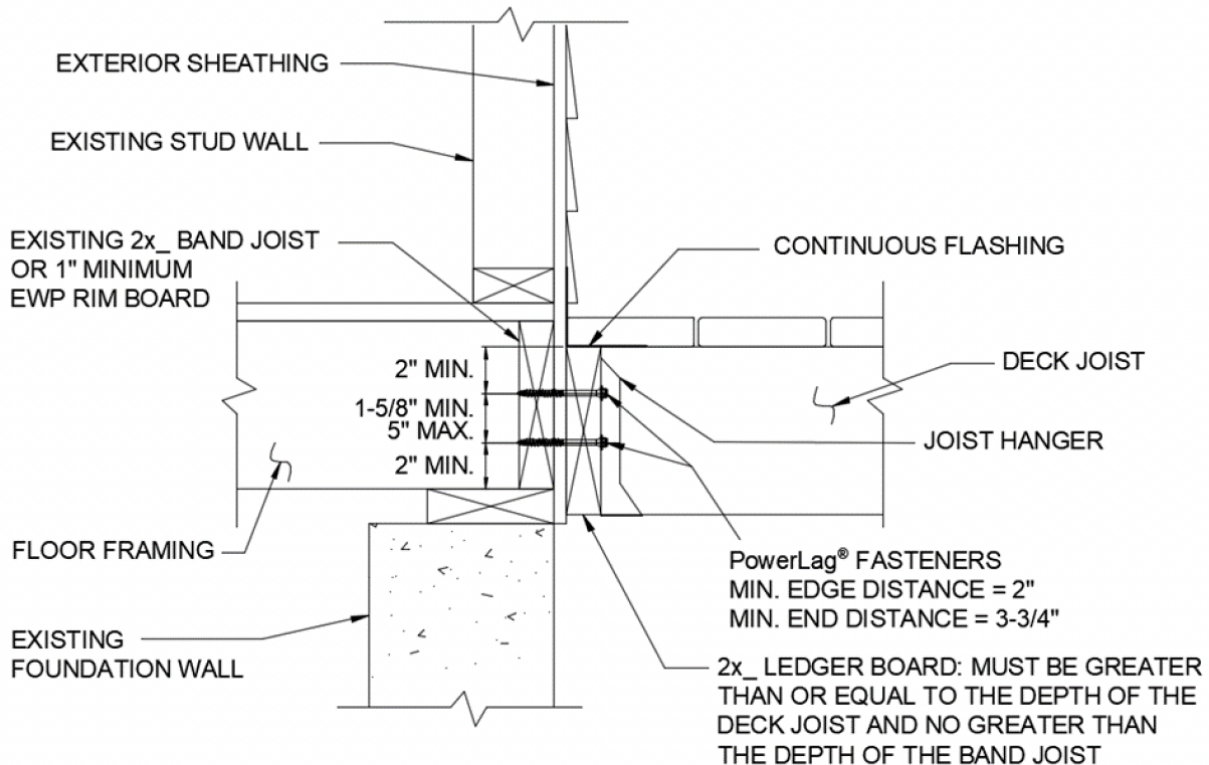

FIGURE 3. POWERLAG® FASTENER DECK CONNECTION
- Fastener spacing for 4" fasteners is based on tested loads. The design values use the lesser of a 1/8" deflection or a factor of safety equivalent to or greater than that of the code compliant lag screw application. See Figure 3.
- Fasteners shall be staggered from the top to the bottom along the length of the ledger while maintaining the required edge and end distances as shown in Figure 3.
- 6.5 Figure 3 shows a detail of the PowerLag® fastener deck connection, including minimum edge and end distances.